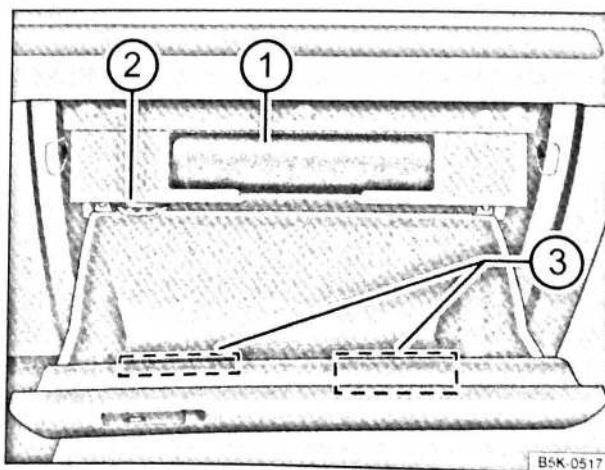

Fig. 114 Open stowage compartment on the front passenger side
The vehicle wallet can be stowed at the top of the stowage compartment $\Rightarrow$ Fig. 114 ①.